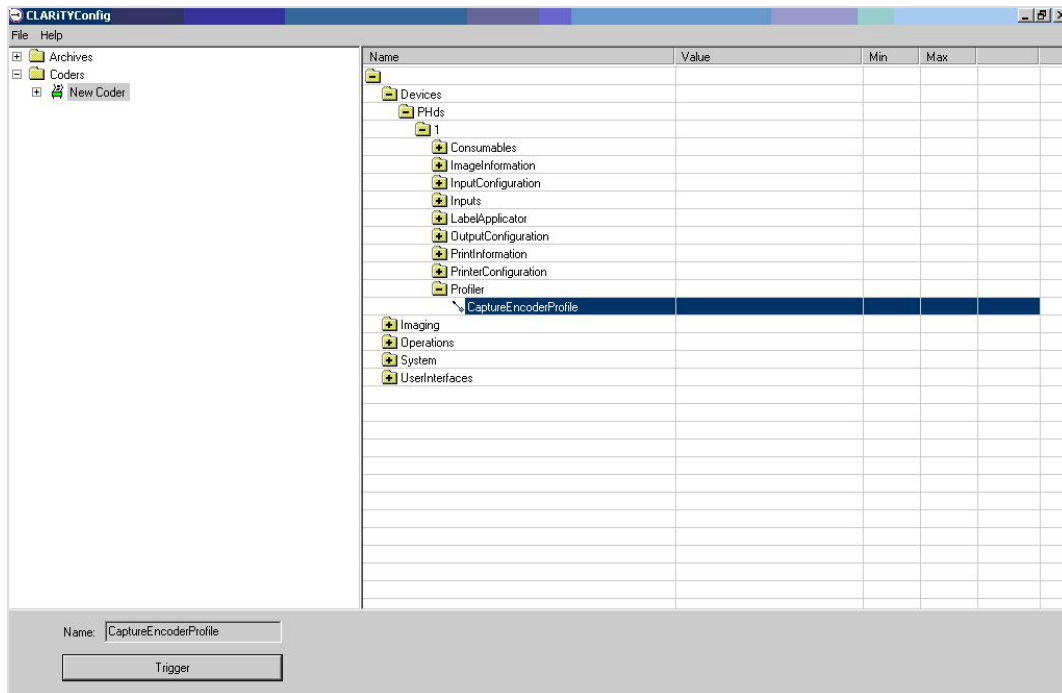

Figure 5-19: Encoder Profiles - CLARiTY Configuration Settings
1. Click on the new coder icon and navigate through devices and select Capture Encoder Profile from the list as shown in Figure 5-19.